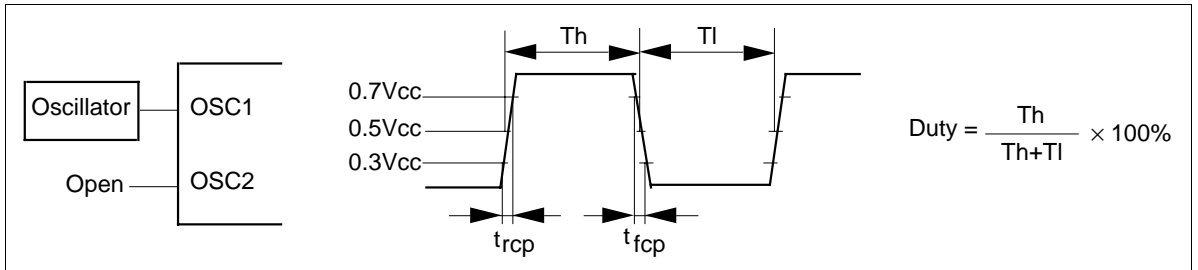

Figure 61 External Clock Supply
13. Applies to the external clock input (figure 61).